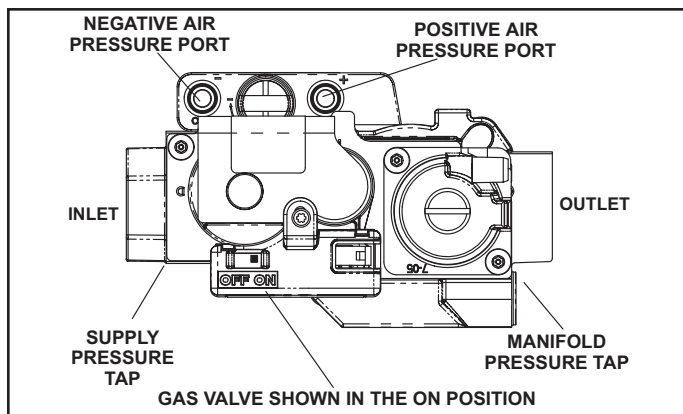

Figure 57. Gas Valve
See Figure 57
6. Move the gas valve switch to the OFF position. See Figure 57.
8. Move gas valve switch to the ON position. See Figure 57. DO NOT force.